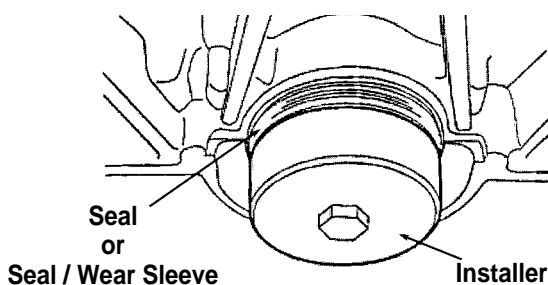

Figure 3
4. Tighten the bolt on the installer to pull the seal assembly over the crankshaft and into the cylinder block. See Figures 3 and 4. **IMPORTANT :** To prevent damage to the seal, do not use air tools to pull the seal into place.